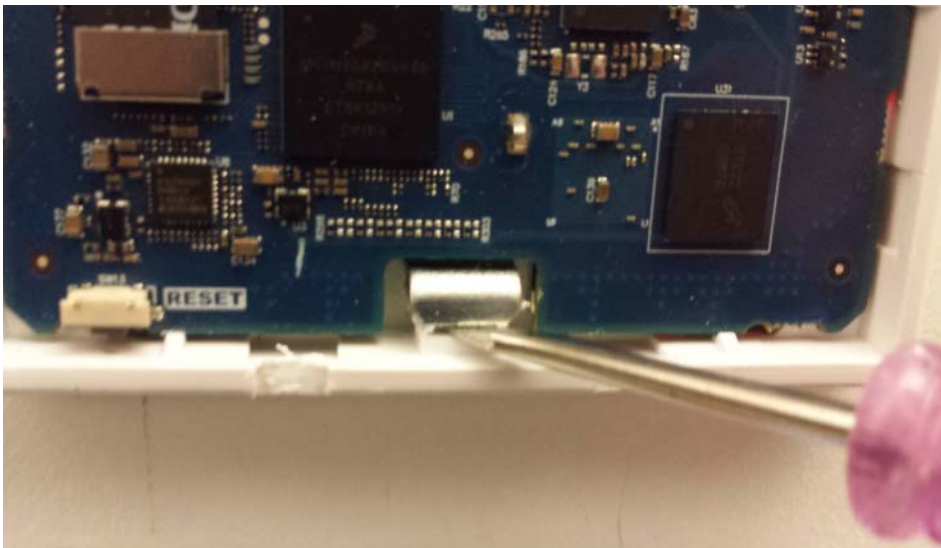

FIG. 25 Unlocking the device frame from the mounting bracket
3. Remove device frame from the mounting bracket by inserting the flat-head screwdriver below the metal clip located at the bottom center of the device frame and lifting the clip upward to unlock the device frame from the mounting bracket (see FIG. 25).
FIG. 25 illustrates using a flat-head screwdriver to unlock the device frame of an MCP-106 from the metal clip on the mounting bracket.